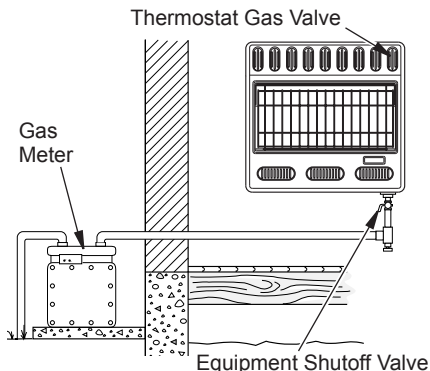
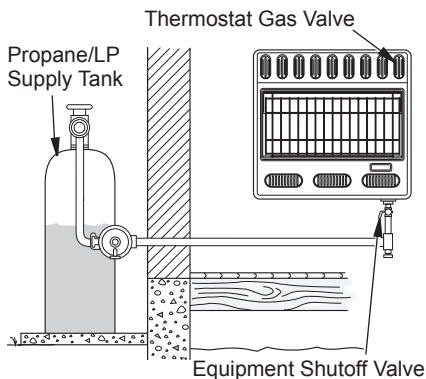

Figure 17 - Checking Gas Joints for Natural Gas (actual heater may vary from illustration)
Figure 18 - Checking Gas Joints for Propane/LP Gas (actual heater may vary from illustration)
3. Check all joints from gas meter for natural gas (see Figure 17) or propane/LP supply tank for propane/LP gas, to equipment shutoff valve (see Figure 18). Apply a noncorrosive leak detection fluid to all joints. Bubbles forming show a leak.
4. Check all joints from equipment shutoff valve to thermostat gas valve (see Figure 17 or 18). Apply a noncorrosive leak detection fluid to all joints. Bubbles forming show a leak.